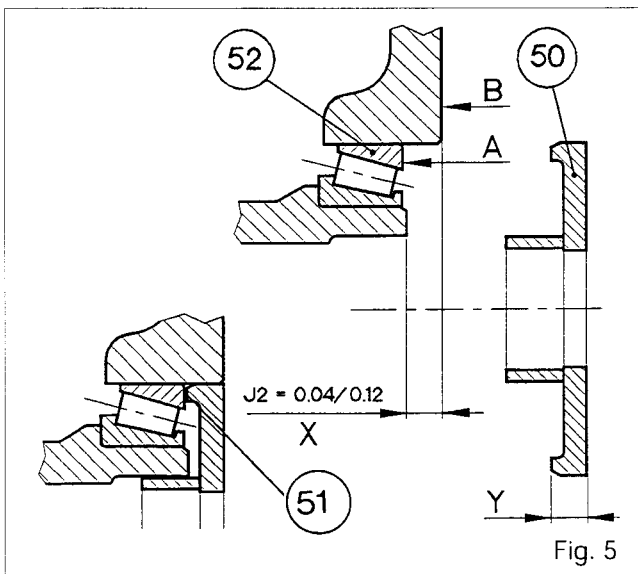

Fig. 5
J2 = 0.04 to 0.12 mm (Fig. 5)
27. Using a depth gauge, measure the dimension **X** between face **A** of the cup (52) and face **B** on the housing (see Fig. 5).
28. Measure the thickness **Y** of the deflector (50).
32. Position the shims (51) selected in procedure 30.
- Note : Do not forget to fit the bolt (1) on the housing (Fig. 5), Section 5 C01.**